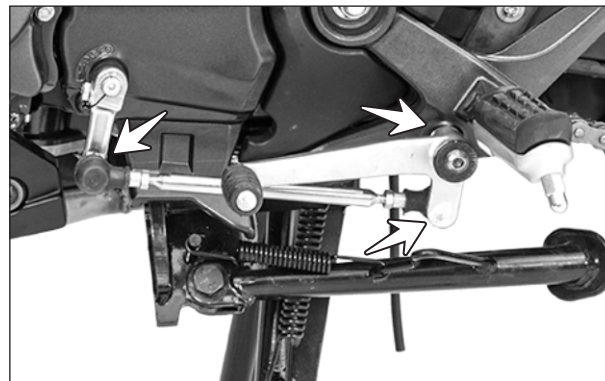

Fig. 2.121
- Lubricate the ball joint gear shift lever using grease every 6000 km for easy operation of lever and smooth gear shifting. (Fig. 2.121)